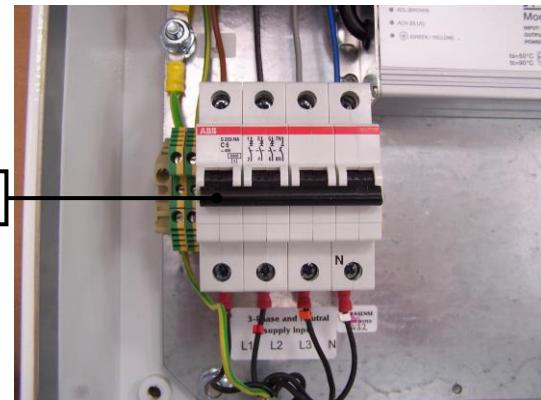

Fig 2.0
Switch off the mains supply to the SFP and wait for a few seconds while the power supply discharges. Open the door with the key provided, switch off at the internal circuit breaker (1) (see Figure 2.0).